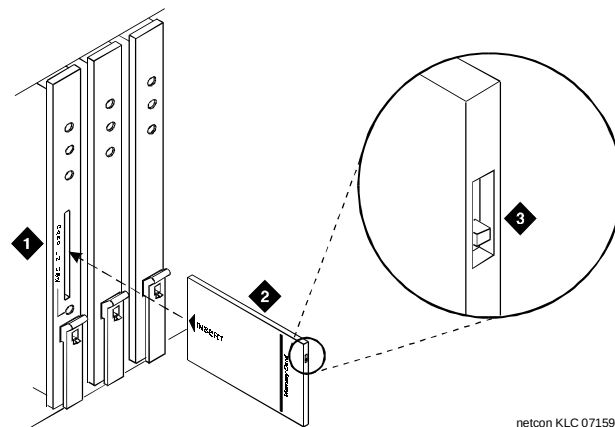

Figure 9-5. Record Switch on DEFINITY Memory Card
2. Verify that the switch on the outside edge of the memory card is in the downward position to record (see Figure 9-5).